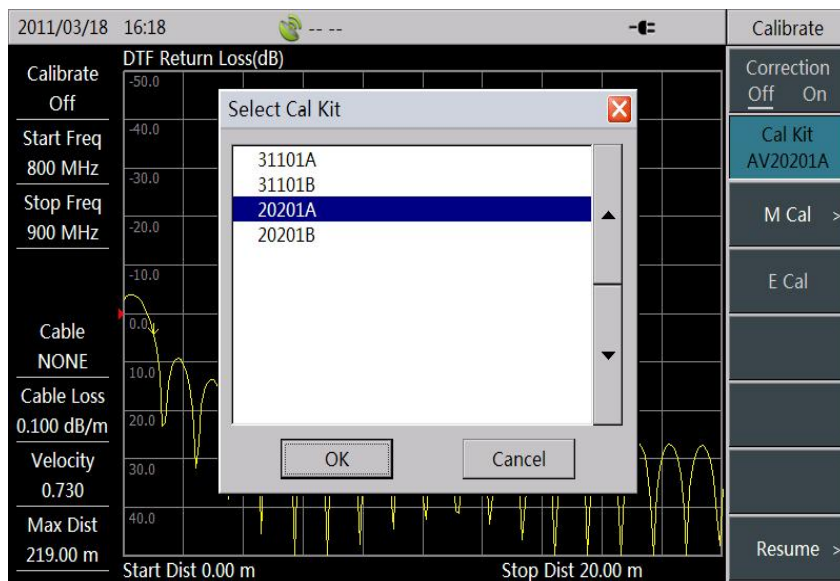

Figure 2-3 Calibration Kit Select
- 7) Click [Cal Kit] menu, then choose the matched model of calibration kit from “Select Cal Kit” list popped up in the screen, and select the “OK” key or **【Enter】** to finish the calibration kit selection, as shown in Figure 2-3: